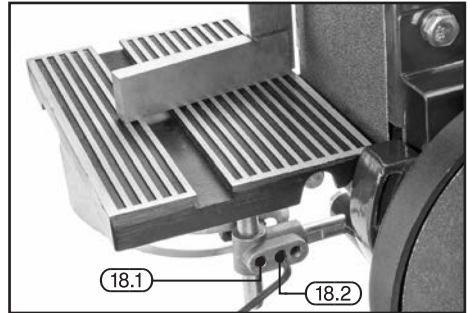

FIG.11
8.9 WORK SUPPORT TABLE ADJUSTMENTS - FIG. 11